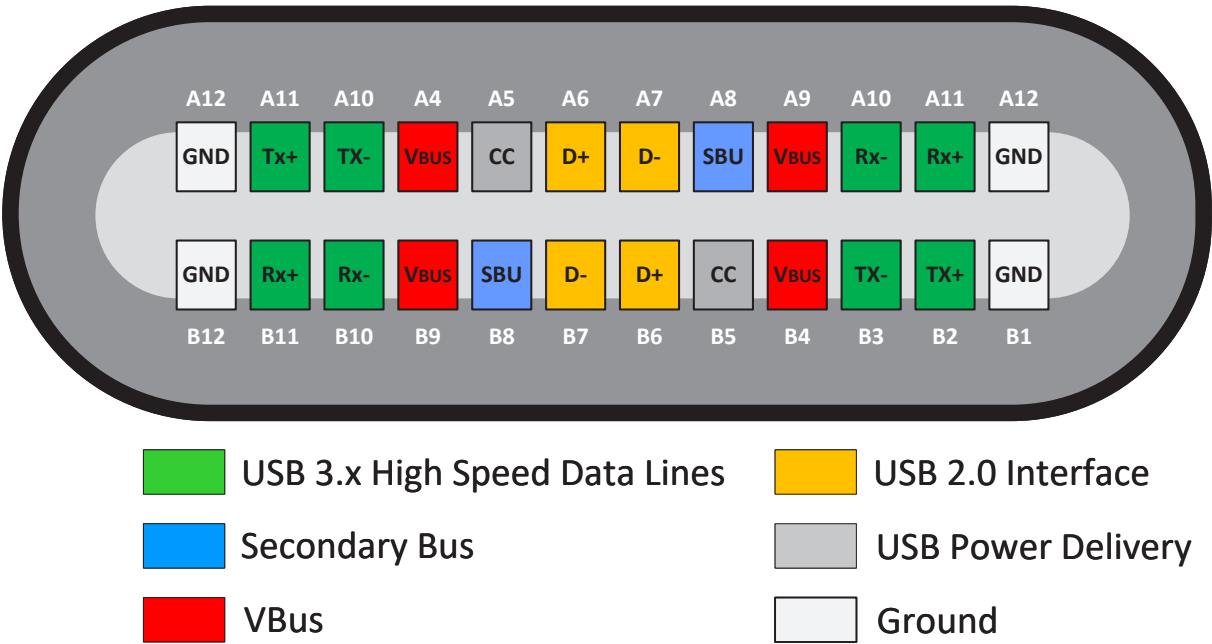

Figure 1. USB Type C pin configurations
Figure 1 shows the pin configurations of USB Type-C. There are two differential pairs (D+ and D-), four pairs of SuperSpeed+ transmitter and receiver data buses (Tx+/Tx- and Rx+/Rx-), two Configuration Channel (CC) pins, two Side Band Use (SBU) pins, four VBus pins and four Ground pins (refer to Table 1 below).
SBU and CC pins protection: Considering the tiny size of the USB Type-C plug and close positioning of its pins, discrete single-line TVS diodes are well suited to protect the port from ESD event. Moreover, discrete TVS diodes are also easier for the designer to layout and trace route. Referring to the pin configurations in Figure 1, note that the CC pin and SBU pin are next to the VBus pin. The VBus pin voltage can reach up to 20V. Therefore, if a short circuit condition occurs, the CC pin and SBU pin will be exposed to 20V. TVS diodes are not designed to protect against the short condition so in this case, a TVS diode with a minimum working voltage of 20V is required to protect the CC and SBU pins. Semtech's μ Clamp2411ZA is capable of withstanding high ESD with voltages ranging from $\pm 20\text{kV}$ (Air), and $\pm 17\text{kV}$ (Contact) as per IEC 61000-4-2. It maintains an operating voltage of 24V. μ Clamp2411ZA is a bi-directional TVS diode with a low dynamic resistance of 1Ω and comes in an ultrasmall 0201 package.